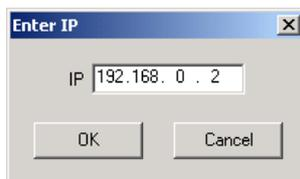

Figure 8.
8.6 In the opened **Enter IP** window enter Receiver's default IP address 192.168.0.2 (Fig. 8) and press the **OK** button.